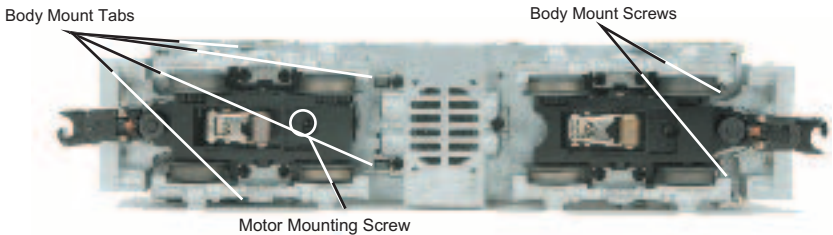
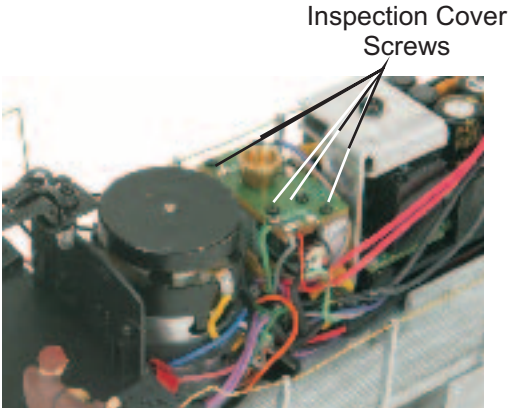

Figure 6. Body Removal Screw Locations
Figure 11. Inspecting the Smoke Unit Wick
1. To access the gear box, remove the cab from the chassis by unscrewing the body mount screws as seen in Figure 6. Next, squeeze inward the tabs located on the opposite end of the body and crew cab while lifting the cab from the chassis.
2. Once the cab is removed, remove the trucks by unscrewing the black Phillips motor mount screw located on the underside of the drive trucks (see Fig. 6).
If you experience poor or no smoke output when the smoke unit is on and has fluid, check the wick to see if it has become hard, blackened, and unabsorbent around the heating element. After removing the locomotive body from its chassis (See Figure 6), remove the smoke unit inspection cover (see Fig 11). After removing the inspection cover screws, lift the inspection plate away and inspect the wick. If it is darkly discolored and hard, it should be replaced.